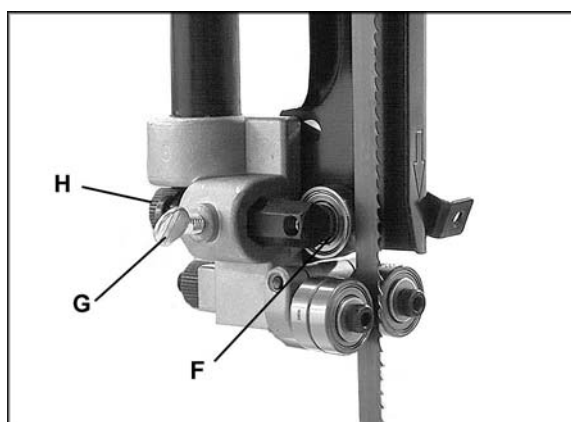

Figure 49
The thrust bearing (F, Figure 49) supports the back edge of the blade during operation, and is set so that the blade will contact it only when the blade is under pressure during a cut.
7. Loosen thumb screw (G, Figure 49) and turn knob (H) to move the thrust bearing (F) in or out until the bearing is approximately 0.016" (or 1/64") behind the blade. You can use a feeler gauge to set this distance, or simply place a crisp dollar bill folded twice (four thicknesses) between the thrust bearing and the blade. (A dollar bill is approximately 0.004" thick, so four thicknesses provides the necessary distance.)